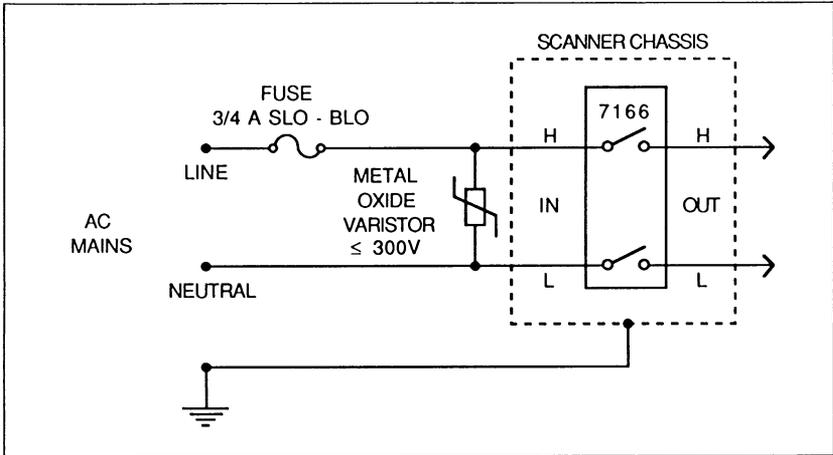

Figure 2-9. Clamping AC Mains Transients
- C. Line filtering must be used to limit voltage transients and RF noise. A clamping circuit to protect the card from AC mains transients is shown in Figure 2-9.